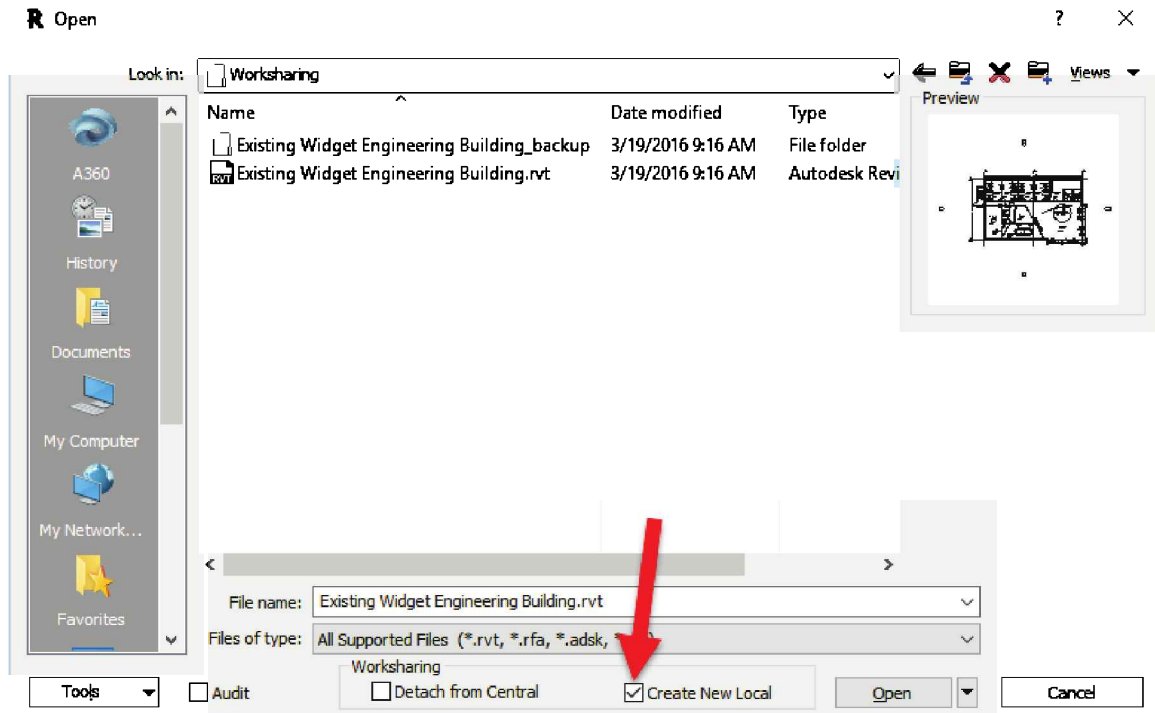

FIGURE 17-4.8 Central file selected; Open dialog
11. **USER A**: Browse to and select the Central File, which is the same file and location from which this section was started (See Figure 17-4.8). **Do not double-click or open the file yet.**
In the Open dialog (Figure 17-4.8) Revit can detect that the selected file is a Central File. When a Central File is selected, and the file version matches the version of Revit you are using, the **Create New Local** option is automatically checked. This is good—each user will always work in a Local File.
User A is now in a Local File, which has a special connection back to the Central File. In the background, the Central File was copied to the local Documents folder and renamed to include the username as a suffix (Figure 17-4.8).